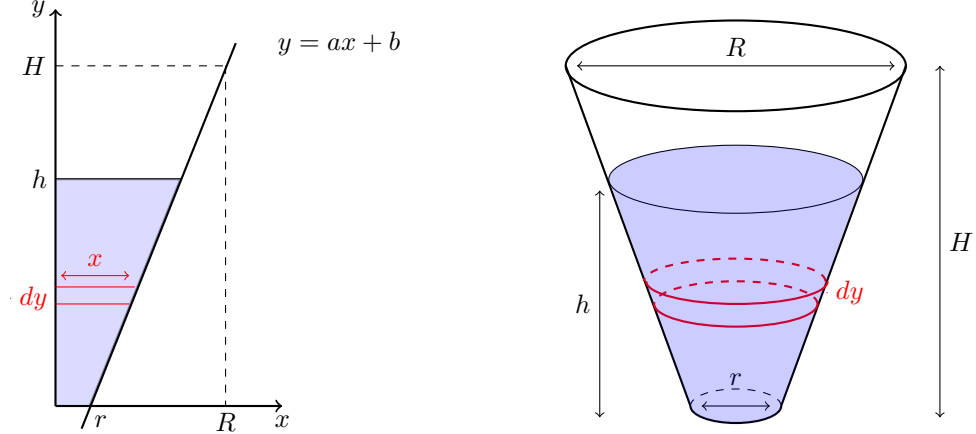

Figure 1: Dimensioned Truncated Conical Reservoir
- Disk Method: Calculate the infinitesimal volume of the horizontal cross-section of the truncated conical reservoir in terms of its radius (x) at a fluid level, shown in figure 1. Use the slope (a) and y -intercept (b) to express the infinitesimal volume. Then integrate the total volume of the truncated cone to the fluid height (h).
1. Calculate the infinitesimal volume of the horizontal cross-section of the truncated conical reservoir in terms of its radius (x) at a fluid level, shown in figure 1. Use the slope (a) and y -intercept (b) to express the infinitesimal volume. Then integrate the total volume of the truncated cone to the fluid height (h).
3. Correlate the a and b parameters of the truncated cone to the physical parameters, such as, the radius of the top opening R , the radius of the bottom opening r and the total height of the truncated cone H , as labeled in figure 1.